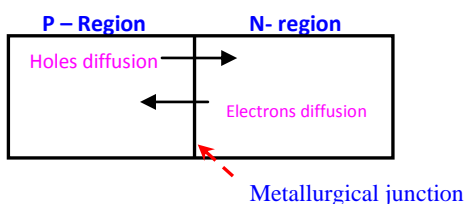

Fig. 1
In PN junction diode, one region is a p-type semiconductor and the adjacent region is a n-type semiconductor. The interface separating the n and p regions is called metallurgical junction (fig.1). Now, as we know in p-region, holes are in majority while electrons are in minority. Similarly, in n-region, electrons are in majority and holes are in minority. Due to concentration gradient, (i.e. large difference in number of electrons and holes on two sides of p-n junction) diffusion of charge carrier begins.
- (ii) Holes start diffusing from p-region to n-region (fig.1)